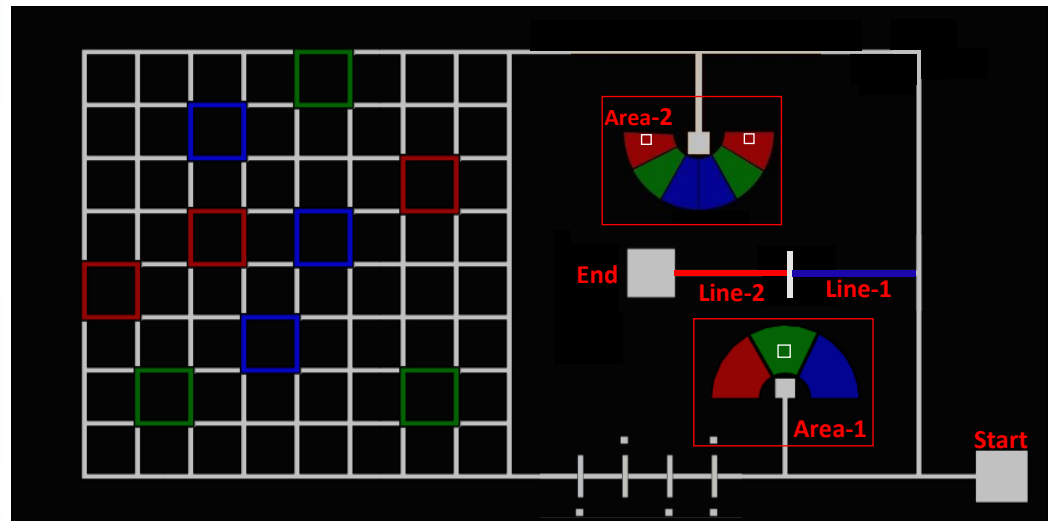

Figure 9: Round 2 arena
- In the second round, the arena will be changed as shown in the Figure 9. In addition to the tasks present in the first round, Line-1, Line-2 and Area-2 will be added to the arena. The ending square will also be different and there will also be a line separating Line-1 and Line-2. The colors of Line-1 and Line-2 will be chosen at random and will only be revealed on the day of the competition.